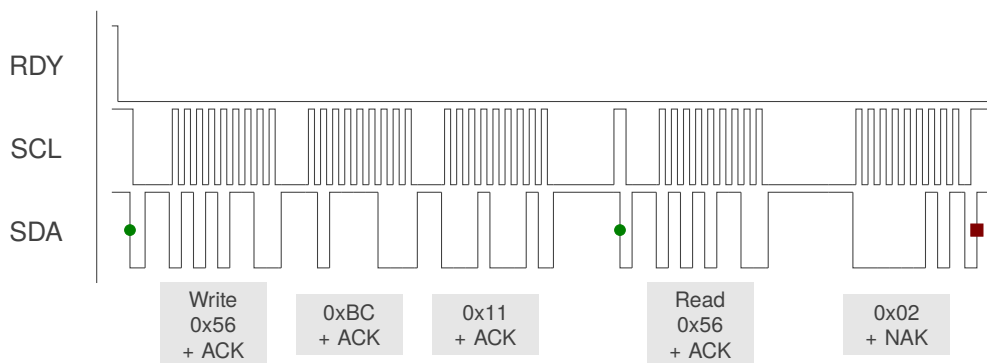
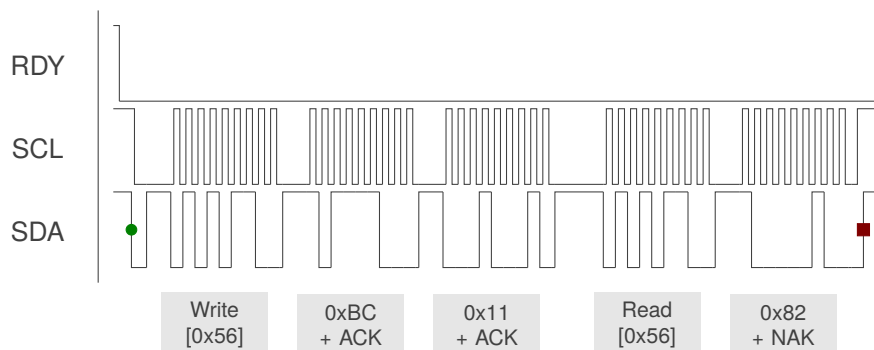

Figure 13.1: I²C Read Example - Read System Control Register 0x11BC before modifying
Figure 13.2: I²C Write Example - Write 0x82 (Ack Reset bit) to System Control Register 0x11BC
The read operation is displayed in Figure 13.1. The master device waits for the RDY line of the IQS9150 to go low, indicating the availability of new data and an available communication window. It's always advisable to wait for the RDY line to go low before initiating I²C transactions. Once the RDY interrupt triggered, the master initiates communication by sending a start condition followed by the device address along with a write command. The IQS9150 will respond with an acknowledgement after which the master device will transmit two bytes defining the register address. The master will then send a repeated start condition followed by the device address with a read command. The IQS9150 will then transmit data from the requested address and will continue to do so while the master acknowledges each byte. The read operation is ended when the master does not acknowledge the last byte received and produces a stop condition.
The write operation is displayed in Figure 13.2. Similar to the read transaction, when the RDY interrupt is triggered, the master initiates communication by sending a start condition followed by the device address along with a write command. The IQS9150 will respond with an acknowledgement after which the master device will transmit two bytes defining the register address. The slave acknowledges the register address bytes. The master may then write a series of bytes to the register address and the addresses which follow, with each byte being acknowledged by the slave. The write operation is ended when the master produces a stop condition.
- Read the System Control Register (0x11BC) as illustrated in Figure 13.1.
- Write the value 0x82 to Register 0x11BC as shown in Figure 13.2.
With the *Terminate Comms Window* setting cleared in the *Config Settings* register, a standard I²C STOP ends the current communication window. If multiple I²C transactions need to be done, then they should be strung together using repeated-start conditions instead of giving a STOP. This will allow the communication to occur in the same session. Allowing an I²C STOP to terminate the communication window is the recommended method, and is illustrated in Figure 13.1 and Figure 13.2.